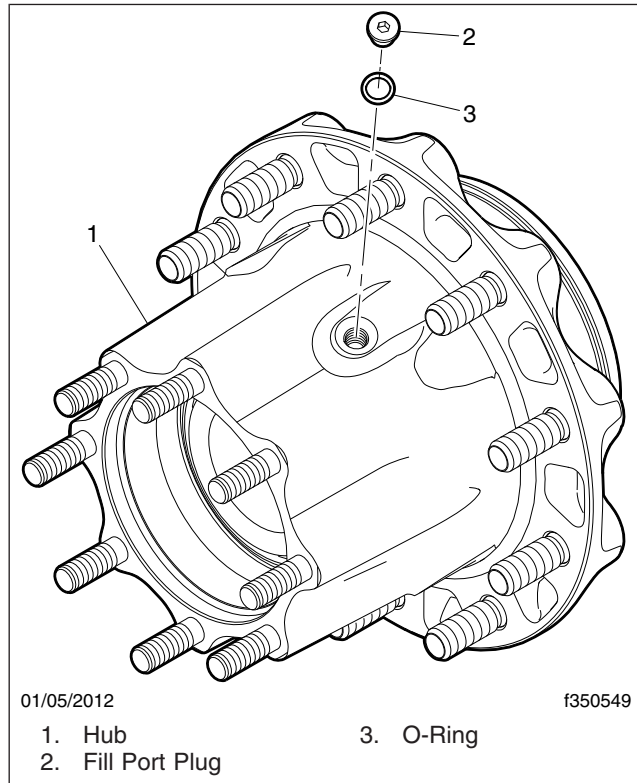

Fig. 4, Hub with Oil Fill Port
11. Clean the area surrounding the oil fill port plug, then remove the plug and O-ring. See Fig. 4.